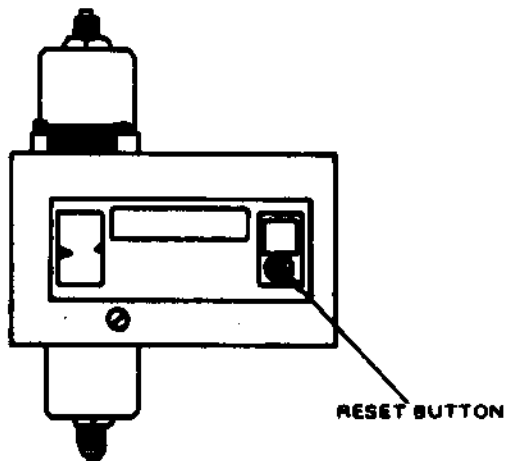

FIGURE 4
Units prior to November, 1968 have the control shown in Figure 4, factory adjusted for a cut out point of 17 lbs. To adjust the control to 30 lb. cut out point follow these steps.
5. Apply pressure to the control, the contacts will open at approximately 17 lbs. Turn adjusting wheel (Figure 4) clockwise a half turn, reset the control and slowly increase the pressure until the contacts open again. Repeat this operation until the contacts open at 30 lbs. pressure. The control is now adjusted properly.